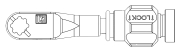

Figure 19
- To attach the **Quick Connect Blade Holder** (such as UL-0107) to **Flex Arm** (such as UL-0106), ensure the **Flex Arm** collar is in its unlocked position. (Figure 19)